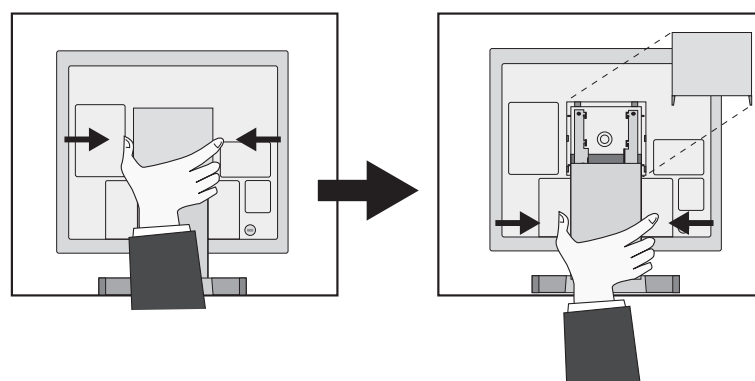

Figure G.2
3. To take off back cover, please follow the instructions of arrow while pressing two side of monitor. (**Figure G.2**).